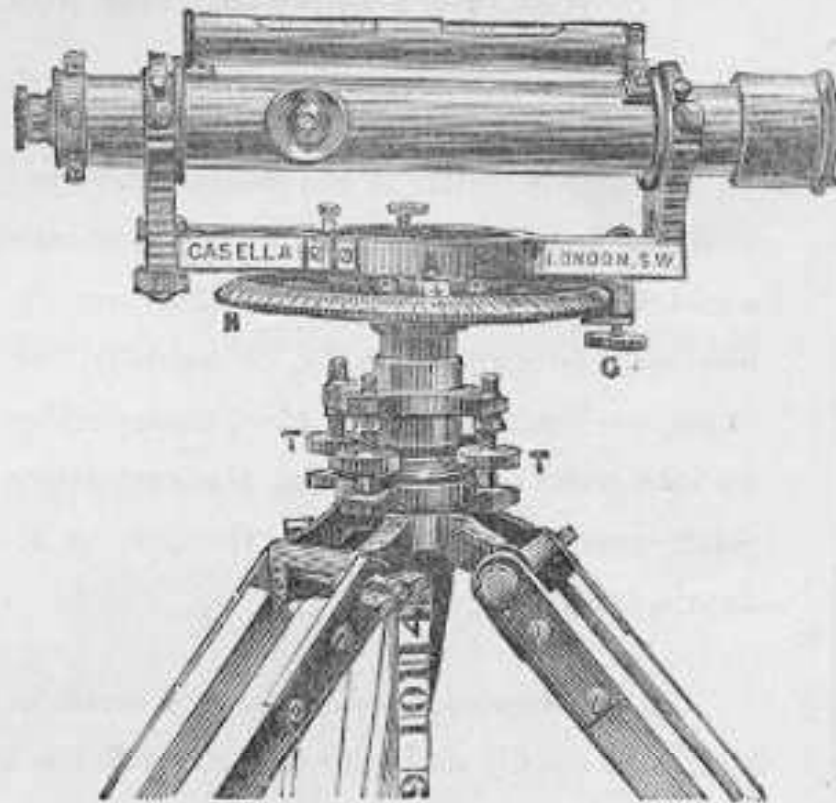

FIG. 16.
**Gradient Telemeter Level** (Fig. 16). An ingenious instrument for taking gradients, measuring or setting out distances, and obtaining differences in level, all of which it does by one and the same observation.